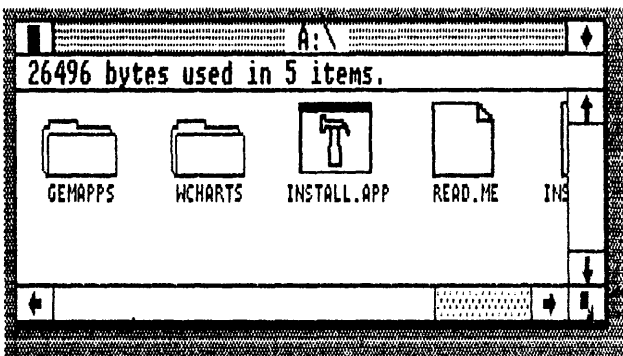

Fig. 6-1. Double-click on the INSTALL.APP icon for installing GEM WordChart.
- Double-click on the INSTALL.APP icon (Fig. 6-1).